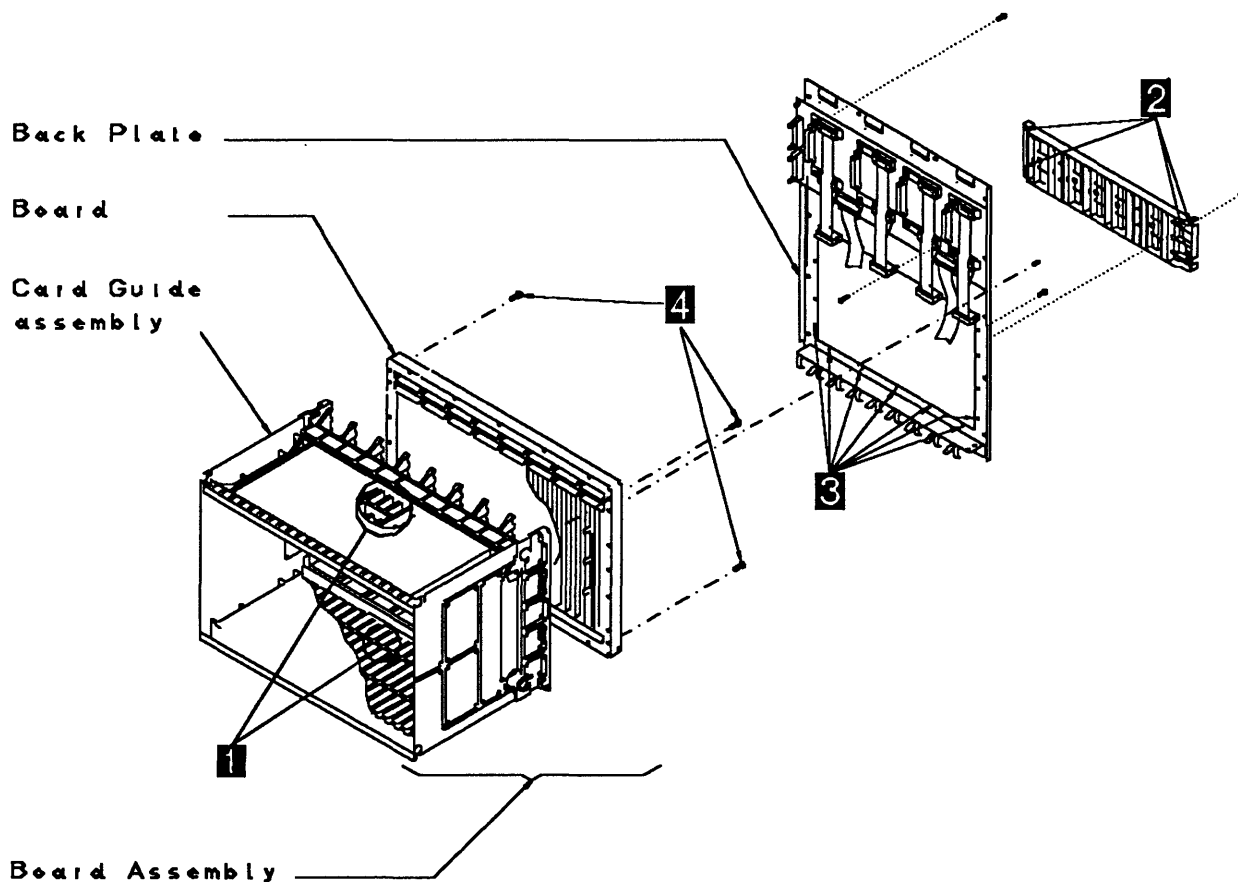

Figure 5-130. Board Assembly
19. Refer to Figure 5-130. At the front of the board, loosen the brackets **1** which maintain the flat cables at the top and bottom of the board (rows 'Y' and 'Z'). Remove those cables from the board.
- a. Refer to Figure 5-130.
1. Attach the card guide assembly to the new board using the 4 screws **4**. Refer to Figure 5-130 on page 5-125.
3. Refer to Figure 5-130 on page 5-125. Ensure that there are no bent pins on the board.